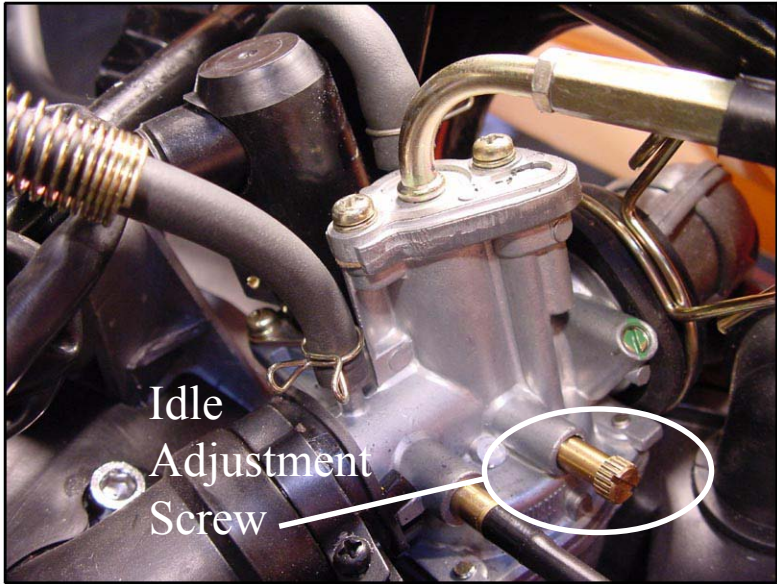

Fig. 25
- Adjust the idle adjustment screw until the engine idles at 1500 +/- 100 RPM. (See Fig 25)